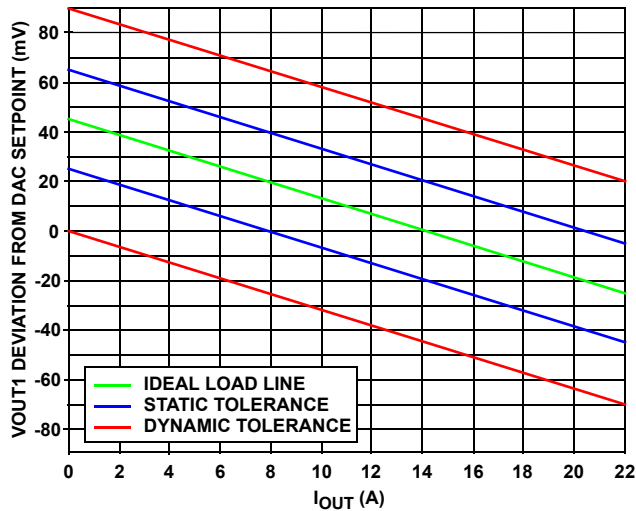

FIGURE 1. VOUT1 REGULATION ENVELOPE
The core regulator (VOUT1) was designed to meet the regulation envelope detailed in Figure 1. With a DAC-set regulation point of 1.750V, the output voltage conforms to the regulation limits shown. Although the droop pictured (difference between voltage at a lesser load and voltage at a higher load) will be the same regardless of the DAC setting, the offset shown will exhibit a proportional dependence. The resistive divider sets this offset at 2.57%. For example, the ideal load line at no load and 1.600V DAC setting will actually originate at 41mV positive offset.
- See Figure 1 for regulation tolerance details.